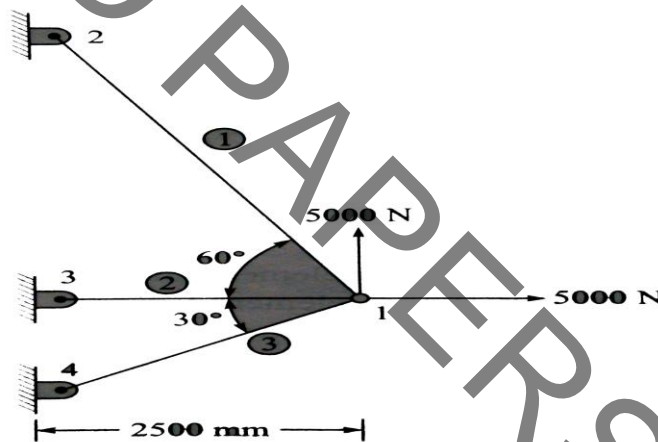

Figure 1
3. Determine the stresses and reaction for the following truss element. Given (figure 1) $E=70\text{GPa}$ and $A = 500 \text{ mm}^2$. [15]